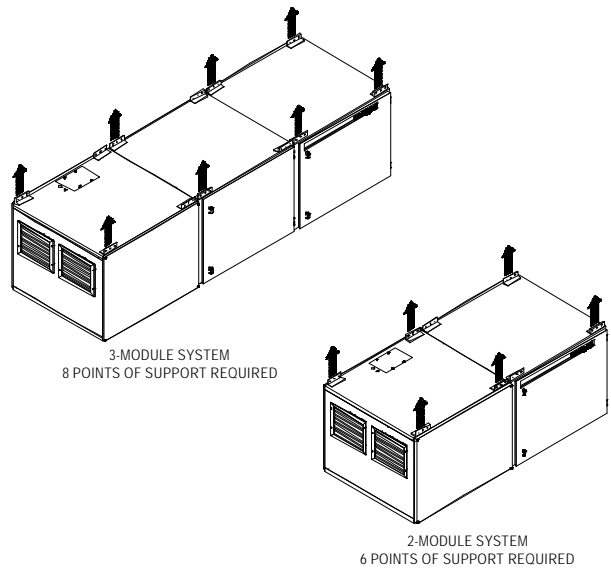
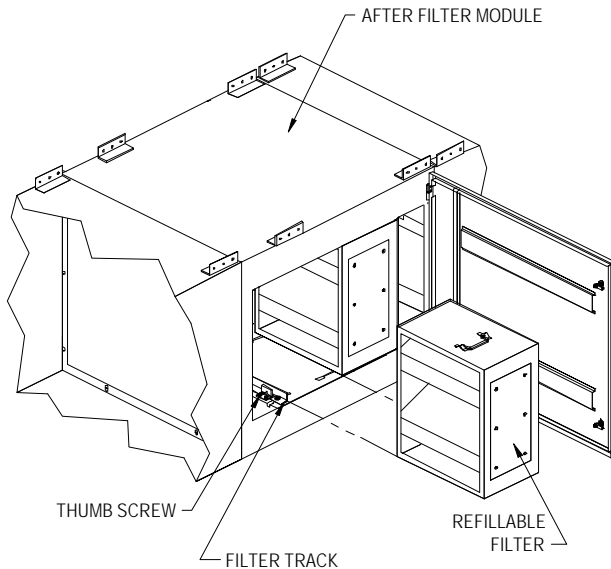

FIGURE 1
FIGURE 6
3. Support the unit at each end and where modules are coupled together (see Figure 1).
1. The MX 6000's optional after filter module can hold up to four (4) 20" x 24" x 12" filters. The After Filter Module is preassembled to the MX 6000, between the Filter Module and Blower Module (see **Figure 1**).
3. To remove filters from the After Filter Module, open the filter access door, thereby gaining access to filters. Loosen the eight (8) thumb screws that hold filter tracks securely against filters. Pull back the filter tracks allowing the filters to slide freely, and pull filters out of Filter Module.
4. Refillable charcoal filters are shipped with charcoal separate. To fill charcoal filter, remove the charcoal filter cover (retained with six (6) screws) thereby exposing the filter slots. Carefully pour charcoal (or activated alumina) into the filter slots and reassemble charcoal filter cover to the charcoal filter (**Figure 6**).